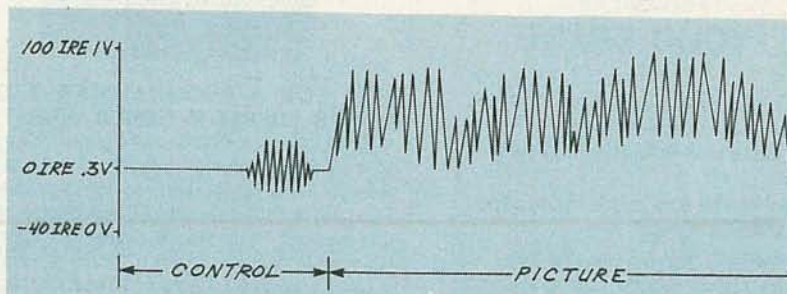

FIG. 1—THE SSAVI SYSTEM can deliver video with suppressed horizontal sync and normal video.
- Suppressed horizontal sync and normal video (Fig. 1).